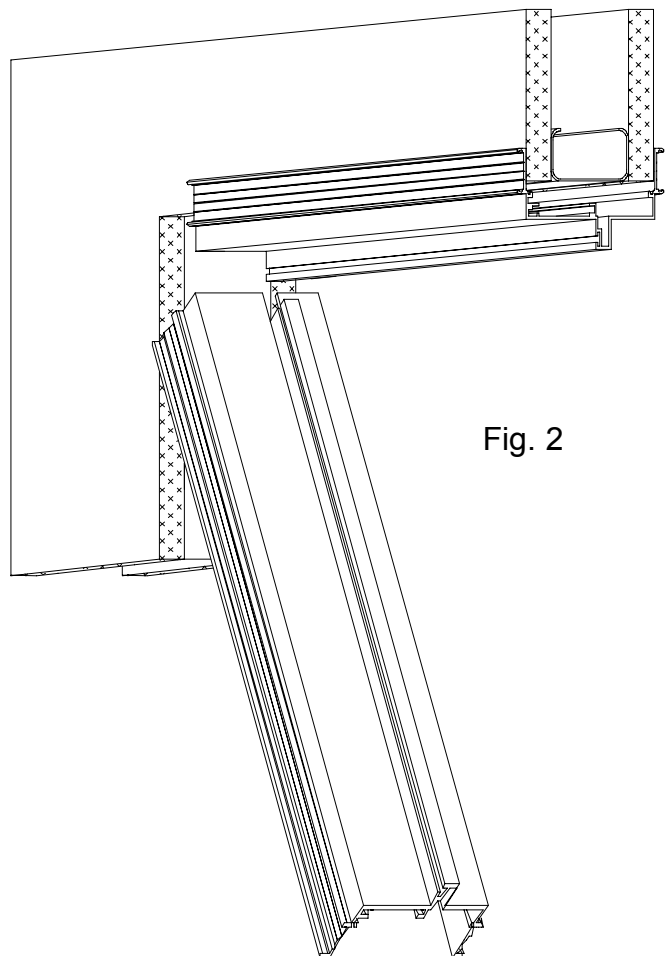

Fig. 2
7. Pull sidelight units back to strike jamb, level at the top and screw to strike jamb. Attach "T"-clip at top of strike (see fig. 2) Continue if multiple sidelights.
5. Hold jambs at an angle and slip the upper portion over the wall. Push upward to engage header, then push the rest of the jamb over the wall. (Fig. 2)